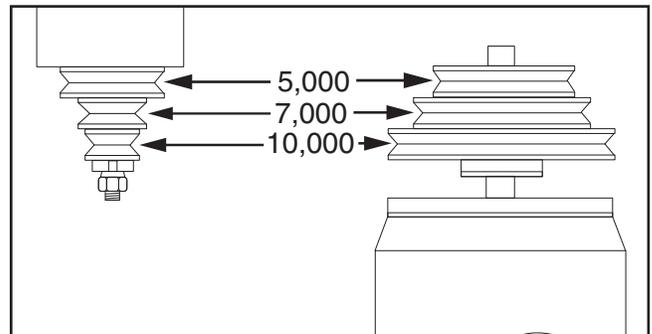

Figure 25. Speed change belt positions.
3. Move V-belt to a sheave on motor and spindle pulleys to select desired speed (see **Figure 25**.)